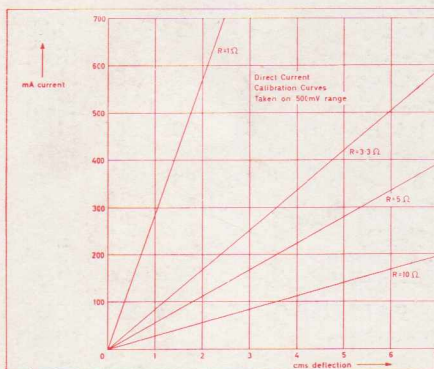

Fig. 8
- (d) Alternatively, plot a family of calibration curves in terms of *current* and *deflection* for various values of R. (See Fig. 8 as example.)